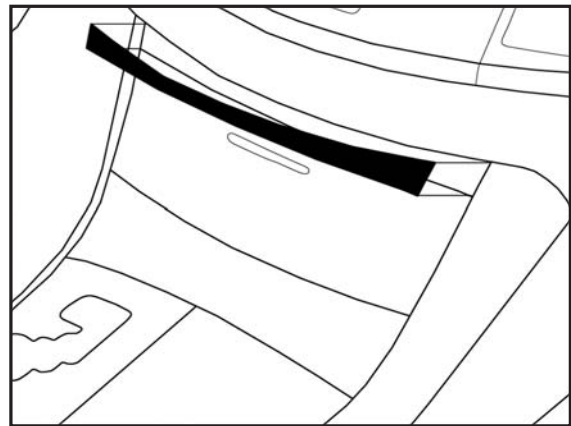

Fig. G1
- ⚠ A. Align part uniformly to the bottom edge of factory door. Edge of appliqué should be flush to the bottom edge of factory component allowing 1.0±2.0mm gap on the top edge. (Fig. G1).